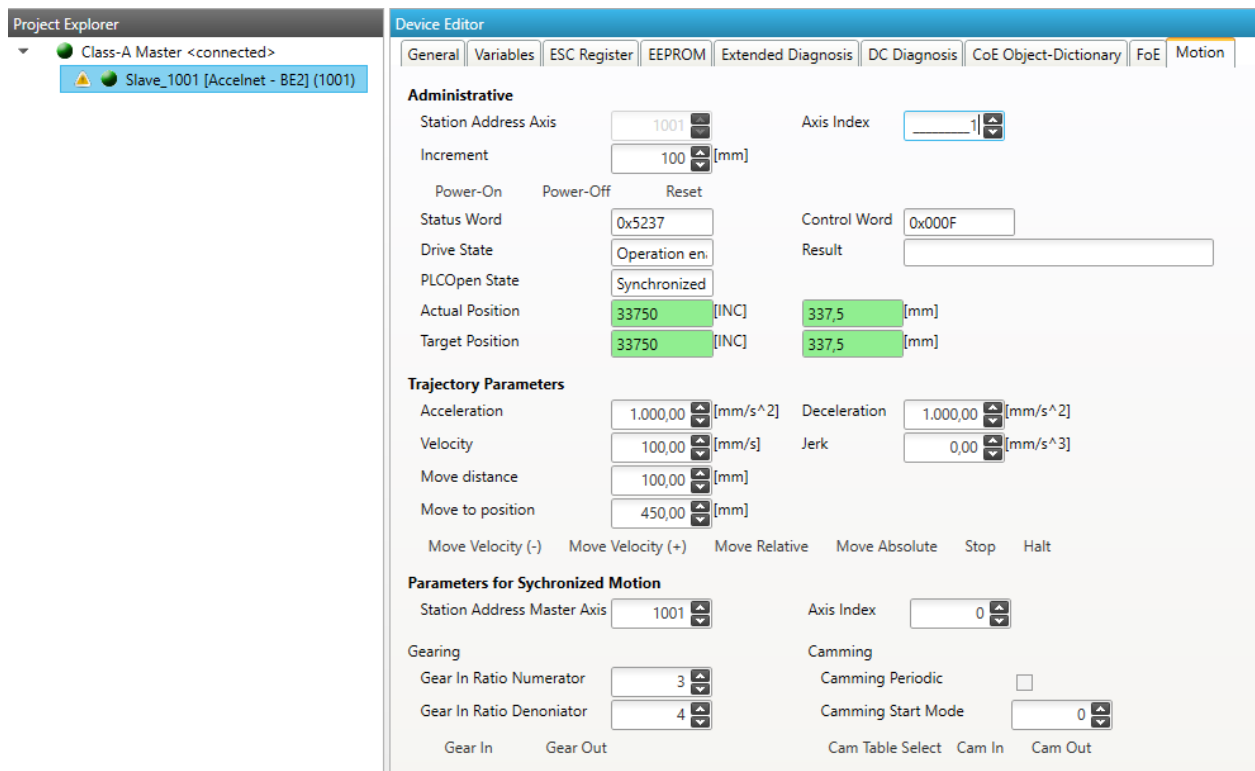

Figure 2-2 EC-Engineer with motion control pane
- Command mode: Motion is remotely commanded with the SlaveTestApplication (see Figure 2-2). => Set parameter "Config/MotionDemo/CmdMode" to 1.